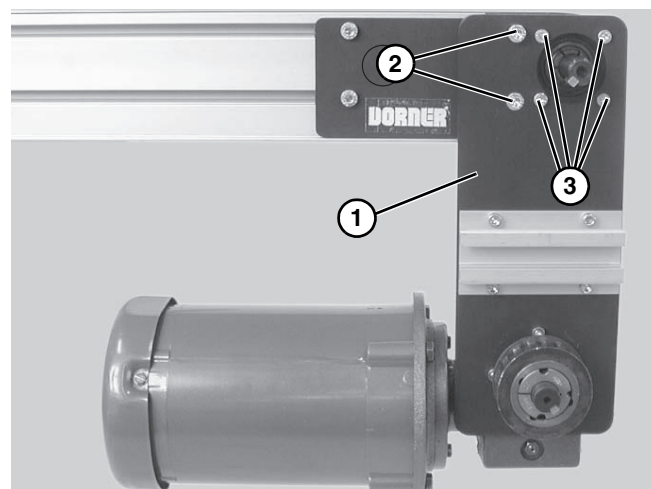

Figure 7
4. Attach mount assembly (**Figure 7, item 1**) with two (2) M8 screws (**Figure 7, item 2**) and four (4) M6 screws (**Figure 7, item 3**). Tighten M6 screws to 146 in-lbs (16.5 N-m) and M8 screws to 288 in-lbs (32.5 N-m).